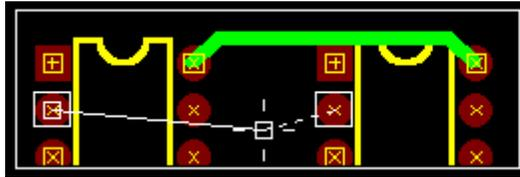

Fig.8.6
5. Semi-autorouting functions can also be used to route connections. Select the function tool  **Auto Connect Node Pair** and click on the 2nd pin of U1. A rubber band like connection shows where it has to be connected as shown in Fig.8.6.